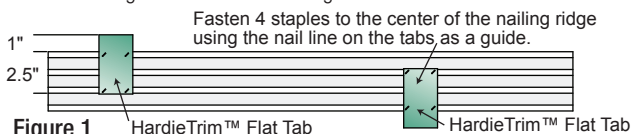

Figure 1
Step 1: Attach HardieTrim[™] Flat Tabs to the back side of the trim with 4 18 ga. 1/2" x 1/4" narrow crown galvanized staples using a pneumatic staple gun. The nail line on the tabs provide a guide for fastening the staples. (Figure 1)